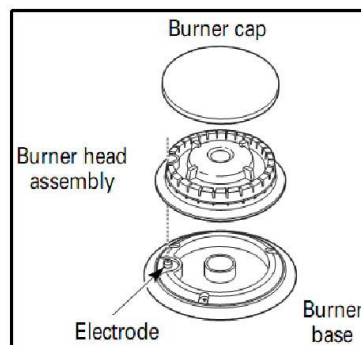

Figure 27
- 1) Place a burner cap on each burner head, matching the cap size to the head size. The cap for each burner has an inner locating ring which centers the cap correctly on the burner head. Be sure that all the burner caps and burner heads are correctly placed BEFORE using your appliance. (See Figure 27)